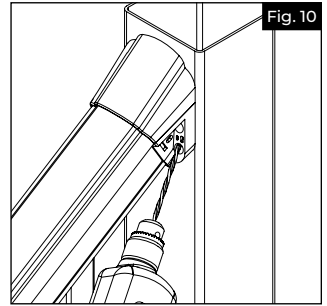
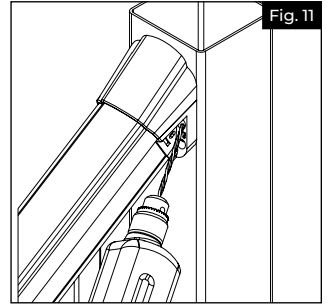

Fig. 10
Fig. 11
Lay bottom rail on a clean smooth surface and snap balusters into routed holes (Fig. 9). Then repeat the process to connect the top rail (Fig. 10).
Slide brackets onto ends of rails (top and bottom) (Fig. 11).
- a. Center your bracket on the post. Using the holes in the bracket as a guide, predrill one of the lower holes with a $\frac{5}{32}$ " drill bit (Fig. 10). Drive one of the #10 x 2" screws through this hole. Pre drill the other lower hole and drive another 2" screw into it. Now predrill the upper 2 holes in the bracket (Fig. 11). Drive two more 2" screws into those holes. Be careful not to overtighten.